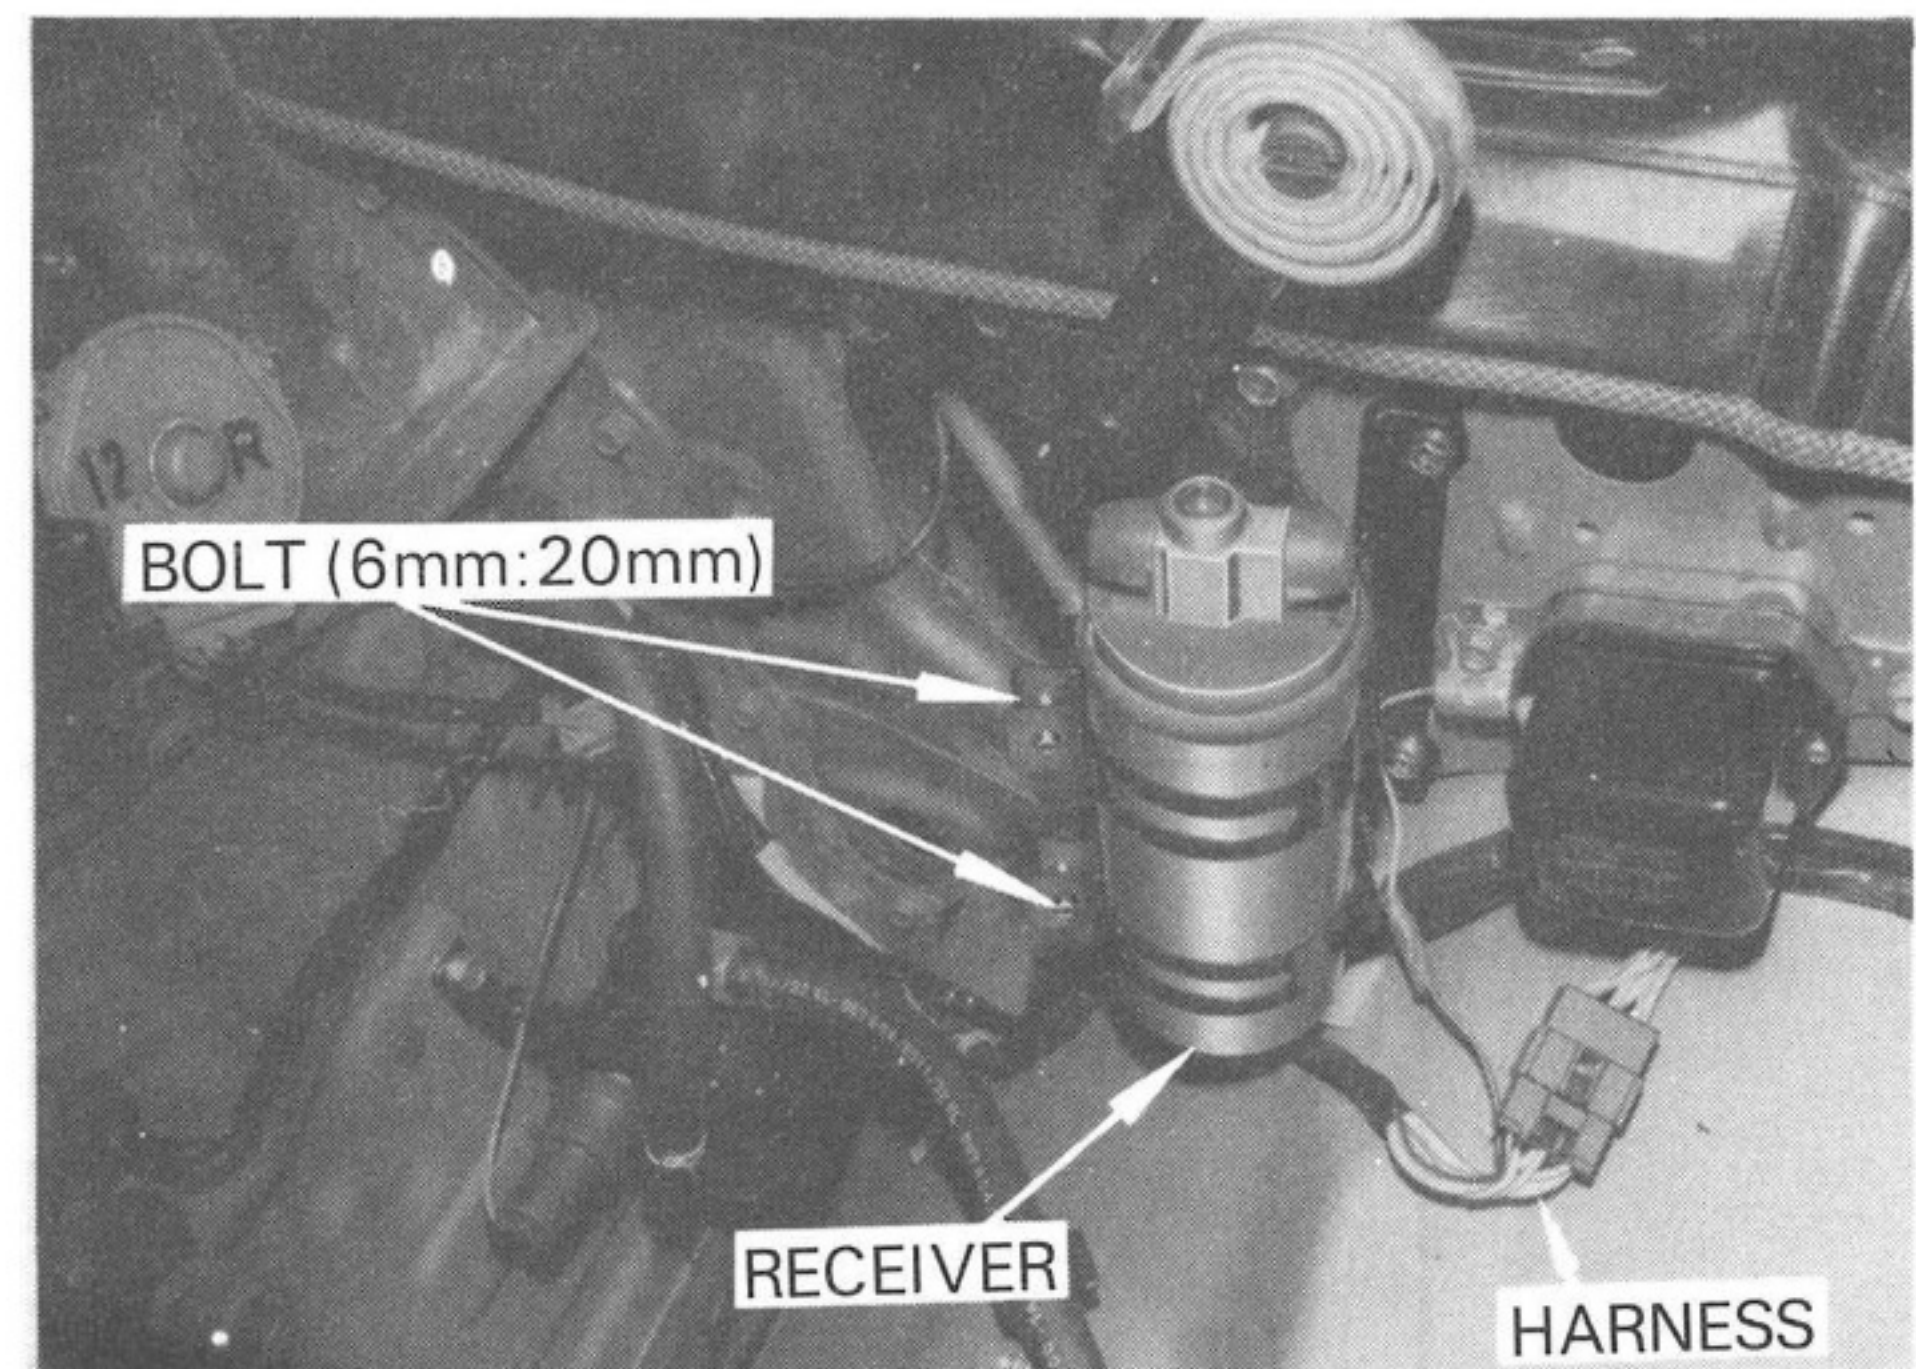

Fig. 3-4
- I) Fasten the receiver by screwing the bolts securely. See Fig. 3-4.